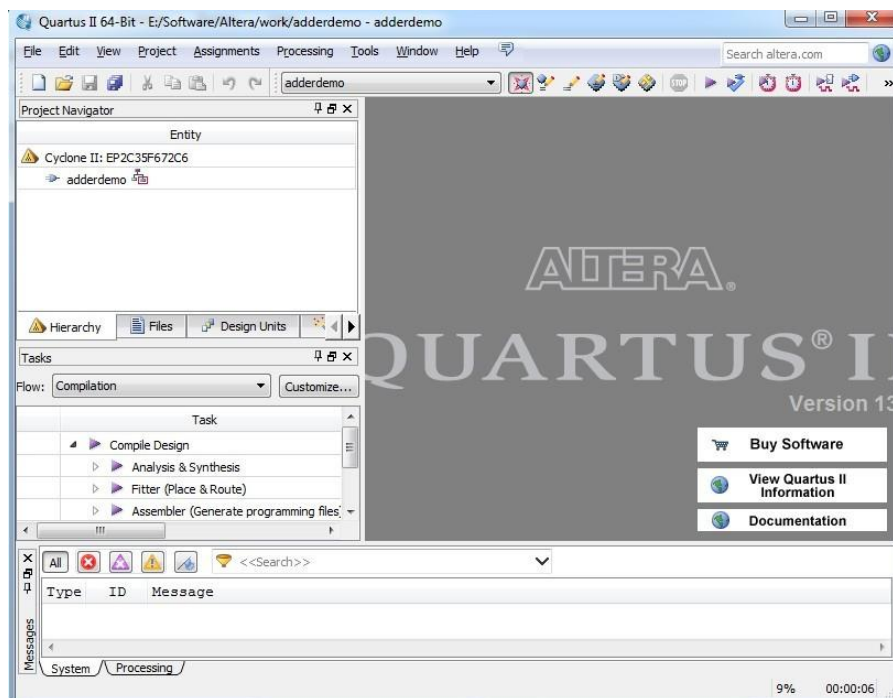

Figure 6
6. Click **Finish** and you will return to the main Quartus II window, under “Project Navigator” sub-window, you can see the project you just created with no design file at this moment, as in Figure 6